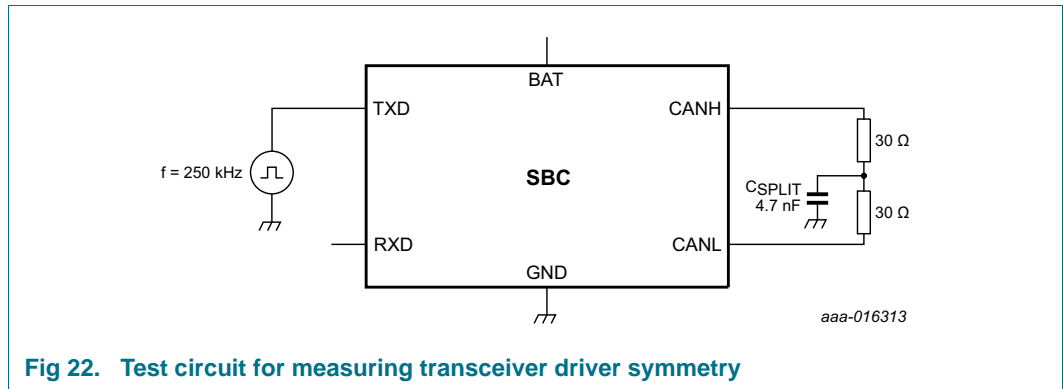

Fig 22. Test circuit for measuring transceiver driver symmetry
- [2] The test circuit used to measure the bus output voltage symmetry (which includes  $C_{SPLIT}$ ) is shown in Figure 22.